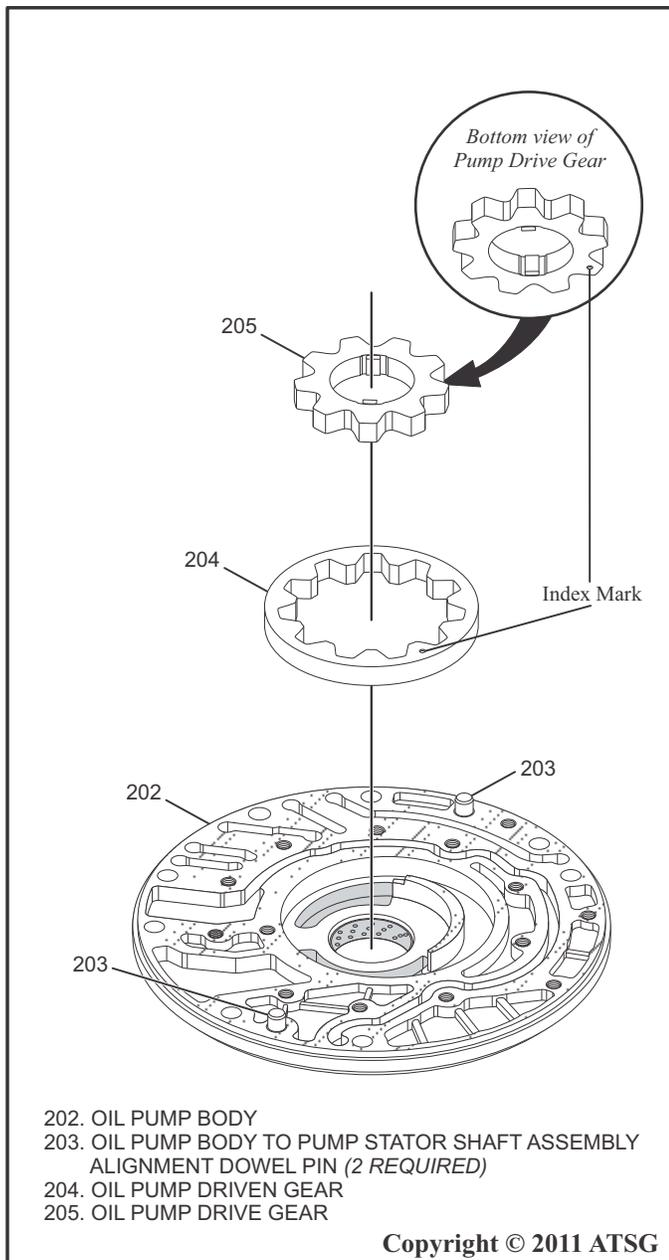

Figure 102
26. Install the Oil Pump Driven Gear into the Pump Body as shown in Figure 102.
27. Install the Oil Pump Drive Gear into the Pump Body as shown in Figure 102.